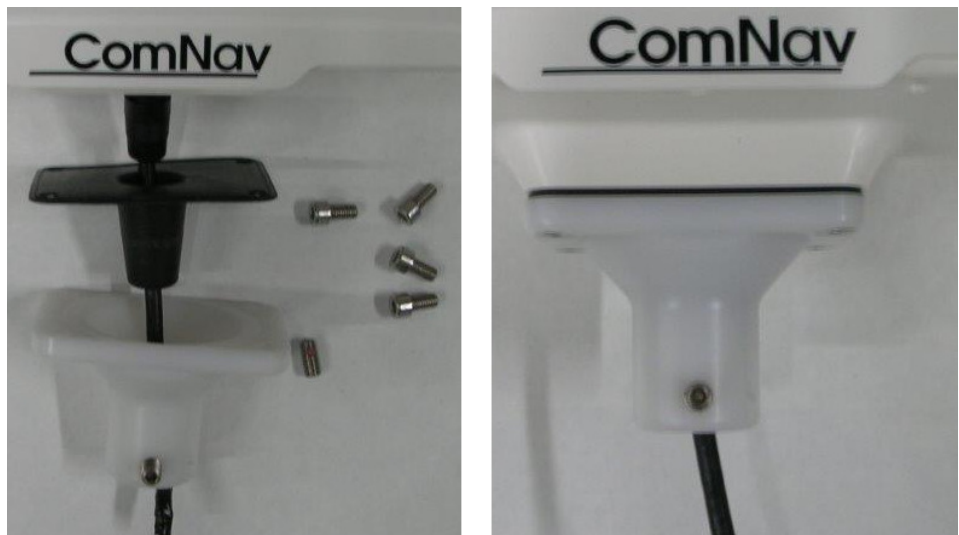

Figure 10 – Assembly G1 with the Pole Base
- 4) Adjust the base to align the 4 screw holes with the 4 holes on the enclosure. Fasten the base to the enclosure, using the screws supplied. Fasten the screws firmly. See Figure 10.